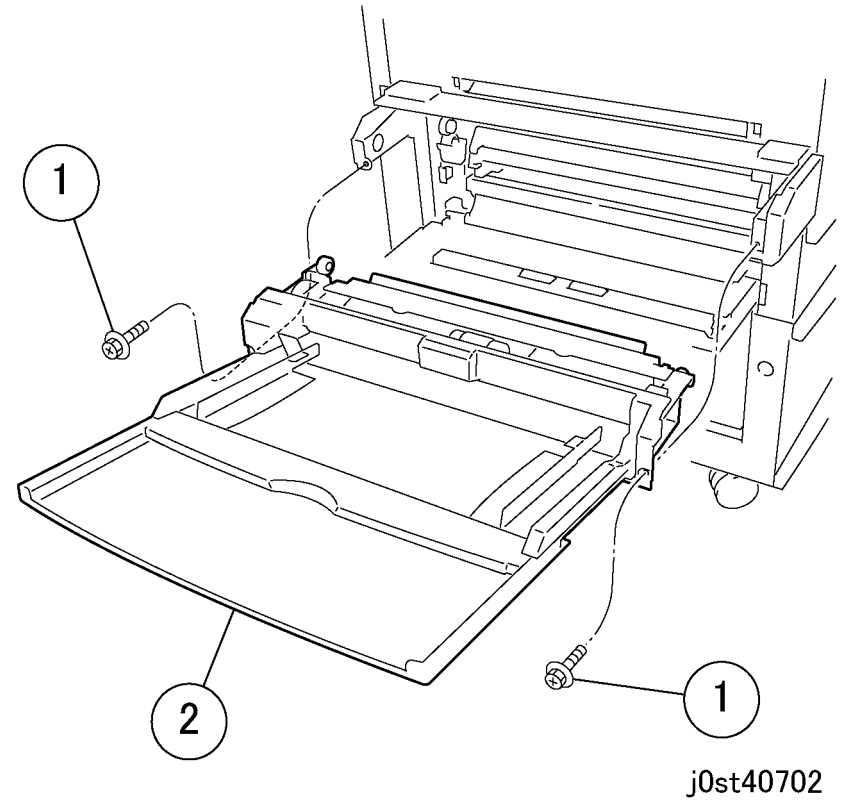

Figure 3 Removing the MPT Assembly (j0st40702)
3. Remove the MPT Assembly. (Figure 3)